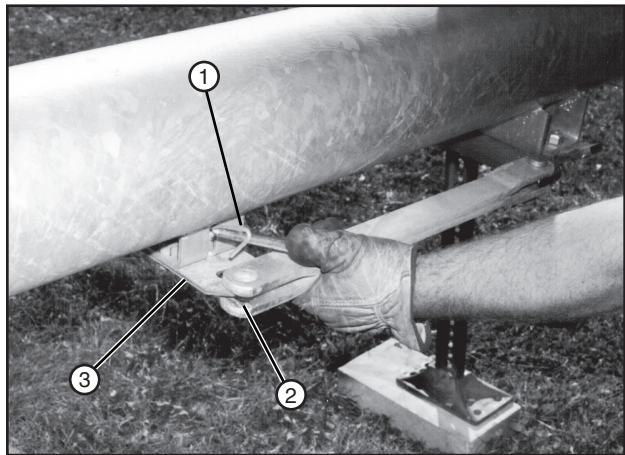

Figure 64-1 1. Carrier Spring 2. Tow Link Bar 3. Tow Link Carrier
1. Lift the carrier spring and release the tow link bar from the tow link carrier. See figure 64-1.